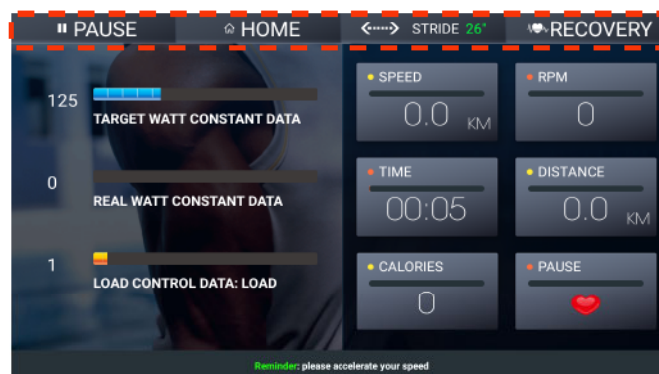

Fig. 18 WATT CONSTANT TRAINING
- During the training, it will show out the SPEED, RPM, TIME, DISTANCE, CALORIES and Pulse on the right side of the screen. Please check Figure 18